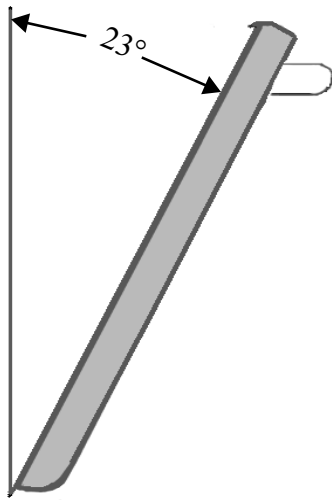

Figure 19: Approximate Door Angle for Removal
3. Close the door until it stops against the hinge clips. The open hinge clips will hold the door open at a slight angle (*see Figure 19*).
1. Position the door at a sharp angle (see *Figure 19*) and insert the hinges centered evenly into the hinge slots. The hinges will securely hook into the slots when properly installed. Do not force, bend, or twist the door.